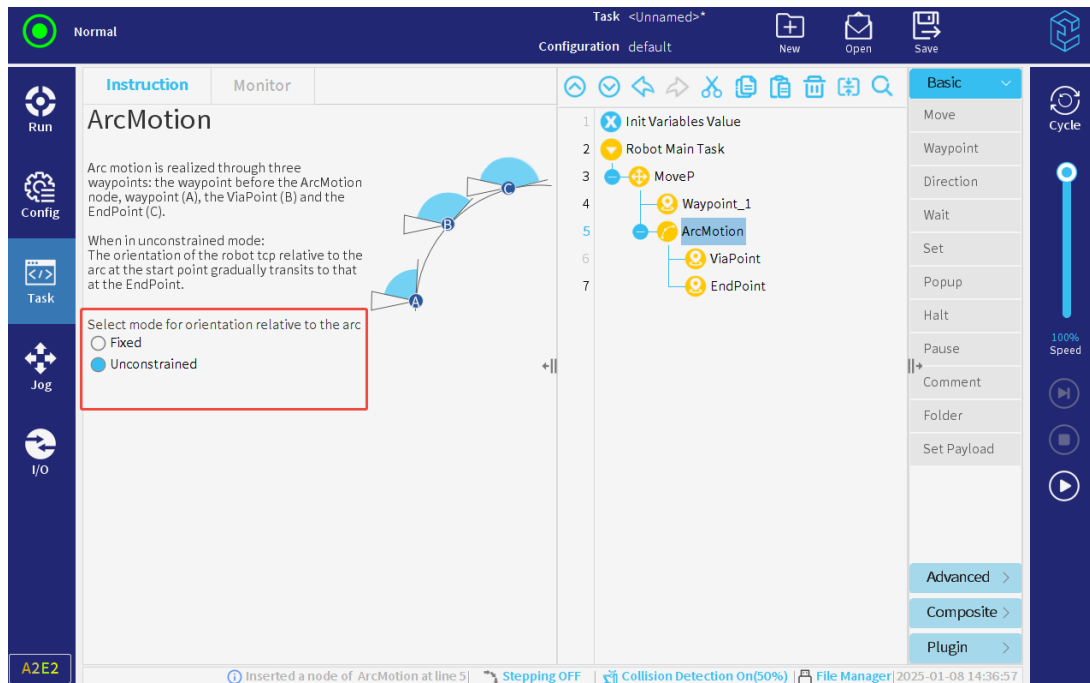

Figure 3-85 : Circular motion
3. Click , add an arc motion, as shown in **Figure 3-85**.